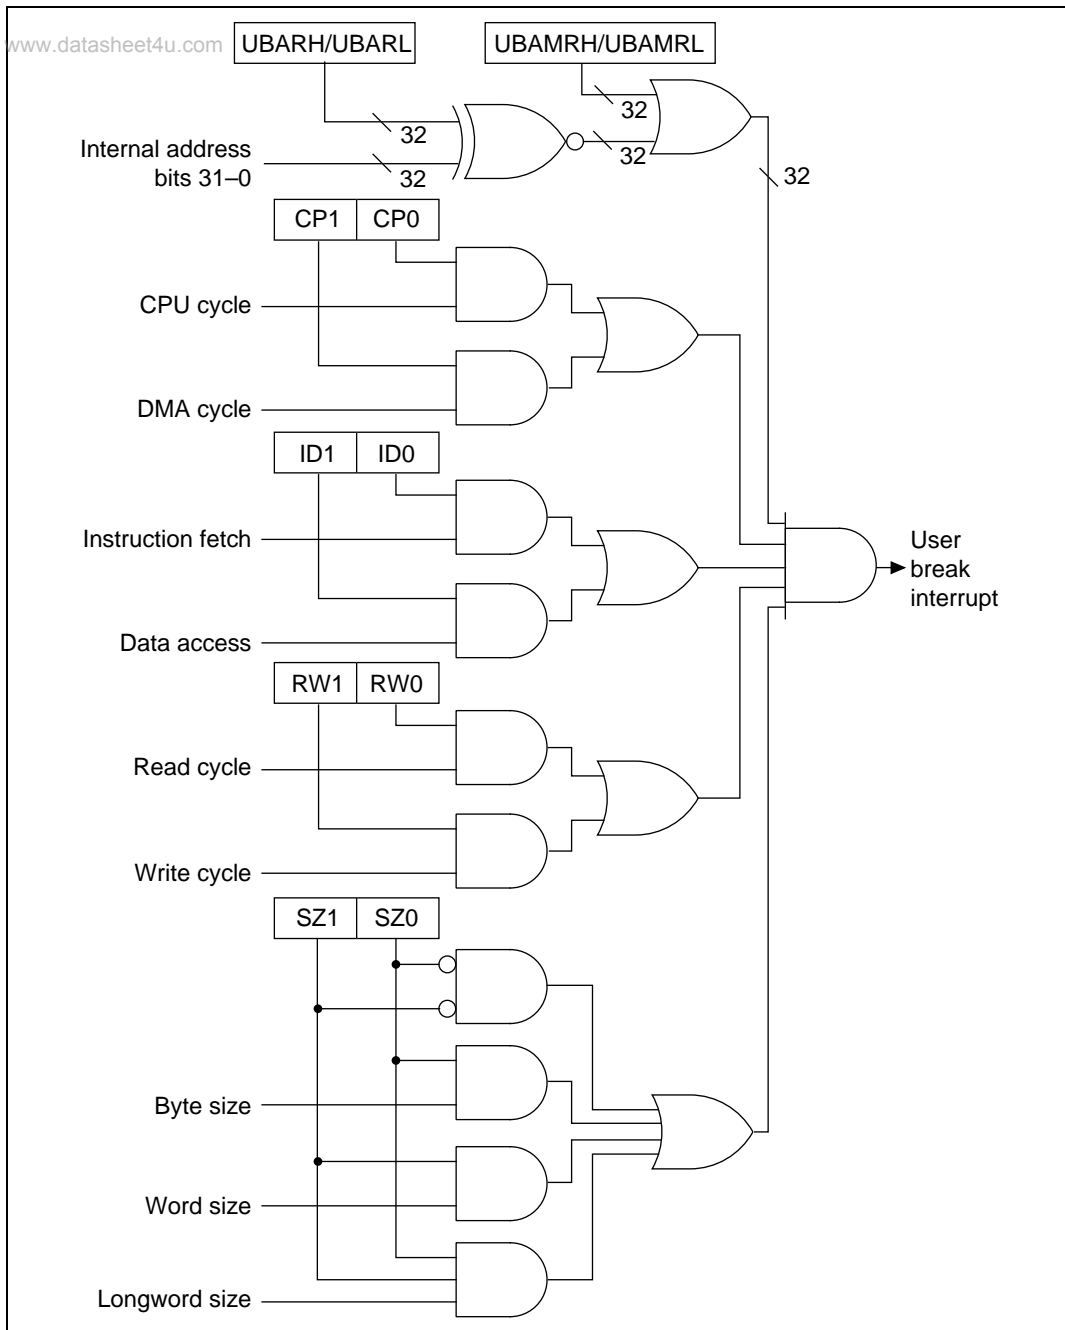

Figure 7.2 Break Condition Judgment Method
2. The UBC uses the method shown in figure 7.2 to judge whether set conditions have been fulfilled. When the set conditions are satisfied, the UBC sends a user break interrupt request signal to the interrupt controller (INTC).
3. The interrupt controller checks the accepted user break interrupt request signal's priority level. The user break interrupt has priority level 15, so it is accepted only if the interrupt mask level in bits I3–I0 in the status register (SR) is 14 or lower. When the I3–I0 bit level is 15, the user break interrupt cannot be accepted but it is held pending until user break interrupt exception processing can be carried out. Consequently, user break interrupts within NMI exception service routines cannot be accepted, since the I3–I0 bit level is 15. However, if the I3–I0 bit level is changed to 14 or lower at the start of the NMI exception service routine, user break interrupts become acceptable thereafter. Section 6, Interrupt Controller, describes the handling of priority levels in greater detail.